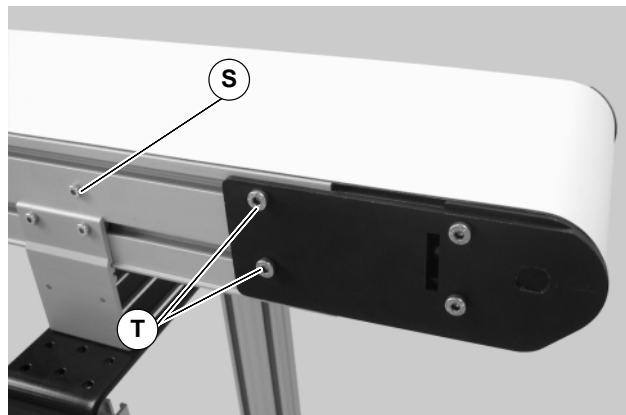

Figure 29
2. On the side of conveyor to be adjusted, loosen two (2) tail clamp screws (T of Figure 29).